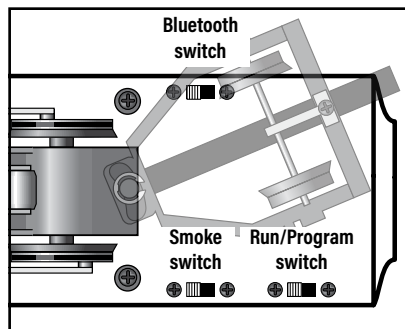

Figure 7. Switch locations
Note! If your locomotive is running in Conventional mode, it can be interrupted by a Bluetooth Control device. If you do not wish for this to happen, locate the Bluetooth ON/OFF switch and move it to the OFF position. Refer to Figure 7 on page 8.
1. Slide the program run switch on your locomotive to the PROG position. See Figure 7 on page 8.